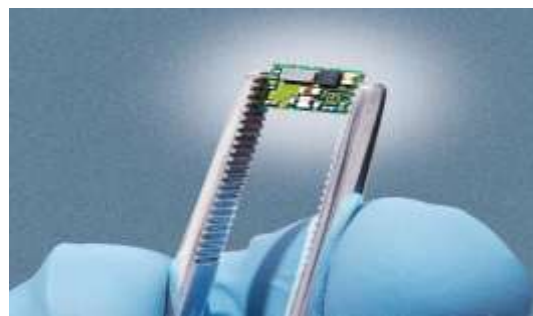

Fig. 1. Sample package miniaturization.
Miniaturization and densification is the current roadmap of all semiconductor devices. Downsizing or decreasing the size of a semiconductor integrated circuit (IC) as depicted in Fig. 1 while increasing the number of functional components is one example of miniaturization and densification.